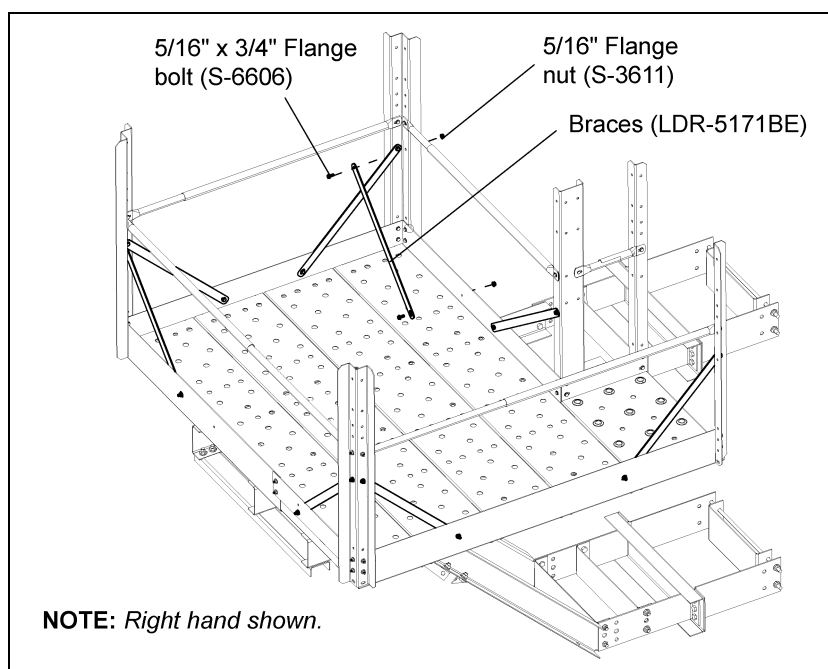

Figure 12O
1. Install safety bar cross supports from the decking toe board to the rail posts using two (2) 5/16" x 3/4" flange bolts and nuts per each cross bar support. *(See Figure 12O.)*